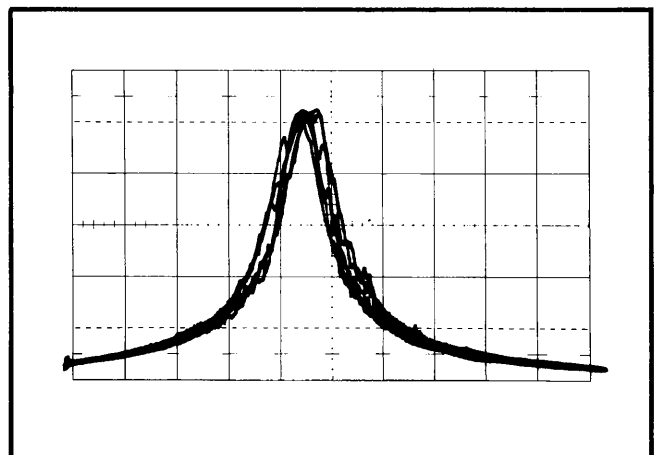

Fig. 6-27. Typical display for checking Incidental Frequency Modulation.
- a. Connect the equipment as shown in Fig. 6-27.
f. Adjust the POS control for a display similar to Fig. 6-27.
2. Connect the power to the oscillator (see Fig. 6-27). Set the varactor bias to +7.0 volts.
4. Position the dial tape to read 175.5 on Band 1. The sprocket drive will probably prevent exact positioning of the dial tape; if this is the case, loosen the set screws locking the gear to the oscillator shaft (See Fig. 6-27) and disengage the tape drive to reset the tape.
3. Connect the necessary power connections to the Band 2 (rear) Local Oscillator (see Fig. 6-27).
8. Connect the power to the Band 1 (front) Local Oscillator (see Fig. 6-27).